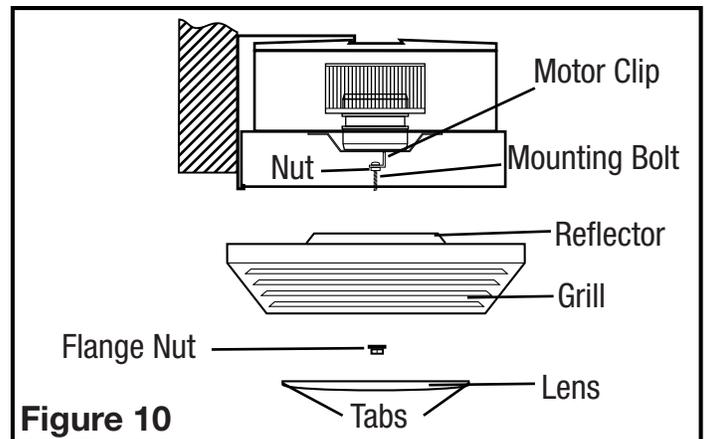

Figure 10
2. Install the grill/lens/light reflector, by first removing the lens from the grill (there are two tabs on either side that hold the lens in place). Then remove the acorn nut and the lock washer which are installed on the reflector mounting bolt in the fan housing. Adjust the height of the reflector mounting bolt so that the grill will be tight up against the finished ceiling and less than 1/4" of the reflector mounting bolt protrudes through the reflector. Secure the reflector bolt's position by tightening the factory installed nut against the motor clip (**Figure 10**).